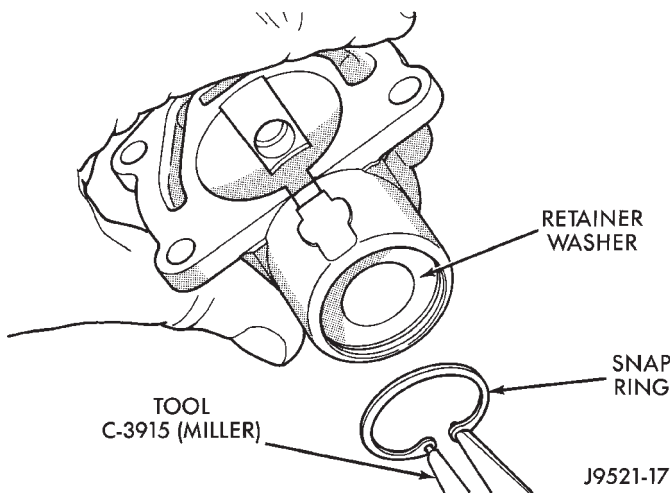

Fig. 17 Governor Weight Retaining Snap Ring And Washer Removal
(3) Remove snap ring and retainer washer that secure governor weight assembly in body. Use Miller C-3915 Internal Pliers to remove snap ring (Fig. 17).
(4) Remove governor weight assembly from gover-